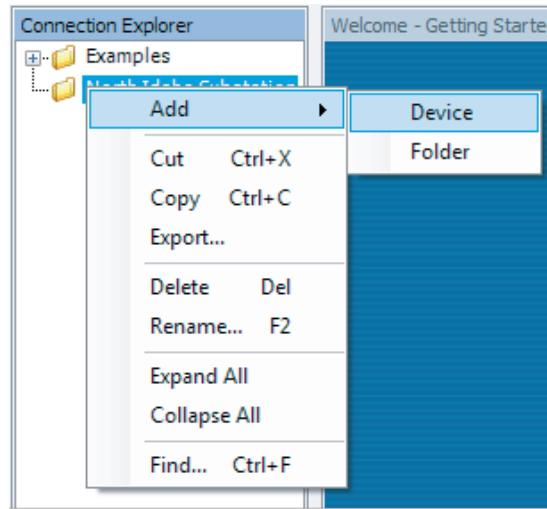

Figure 2.18 Organizing Devices by Folder
- Step 5. Right-click the folder you renamed and click **Add > Device** (see *Figure 2.18*).